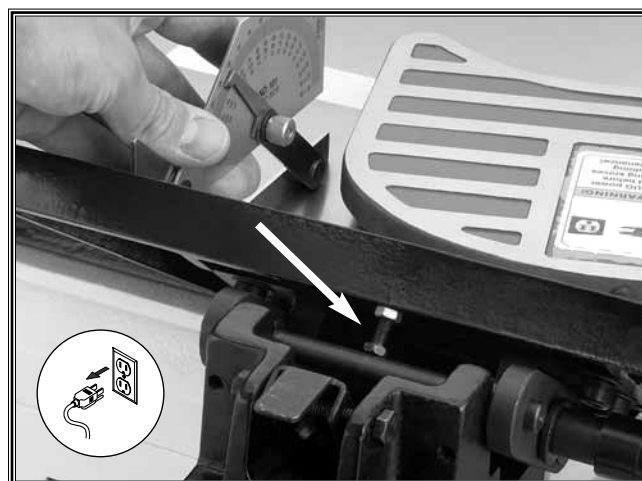

Figure 24. 45° outward angle stop bolt.
2. Loosen the jam nut on the 45° outward stop bolt (Figure 24).